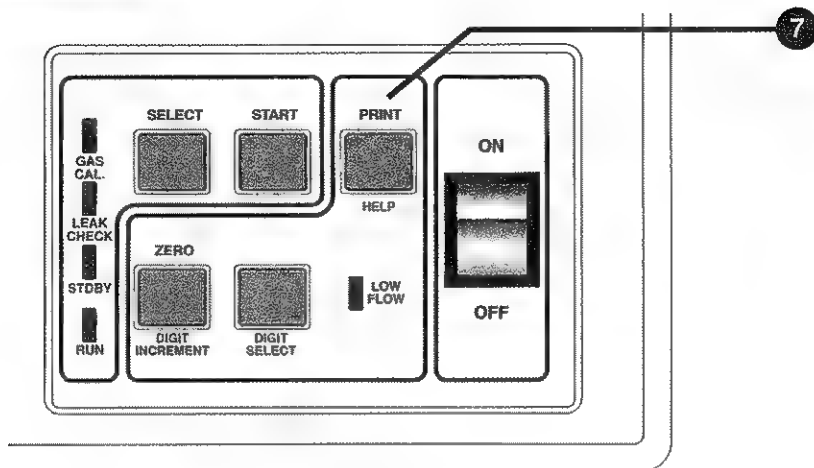

FIGURE 11:
7. PRINT Switch - (see FIGURE 11) When depressed, this switch causes the analyzer's printer to print either sample exhaust readings, or basic help messages **prior to depressing the START switch**, as indicated below, depending upon the **OPERATIONAL MODE** currently in effect as selected by the **SELECT** switch.
A. RUN Mode - When the **PRINT** switch is depressed in the **RUN** (exhaust sampling) mode, it will direct the printer to print out the readings shown on the four (4) LED displays. A sample printout is shown below. The first five lines of the printout are provided for the technician or service writer's convenience.